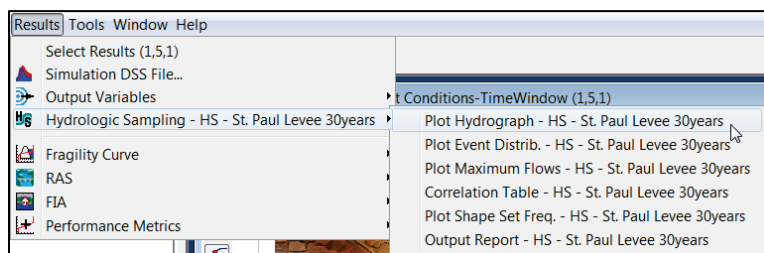

**Figure 21.14** Navigator Tool
By using the **Navigator Tool** (Figure 21.14) the user can click through the output variables that have been defined, instead of making a selection from the **Variable** list (Figure 21.12).
1. From the **Frequency Viewer** (Figure 17.1), using the **Navigator Tool** (Figure 21.14), the user can move through the defined output variables.